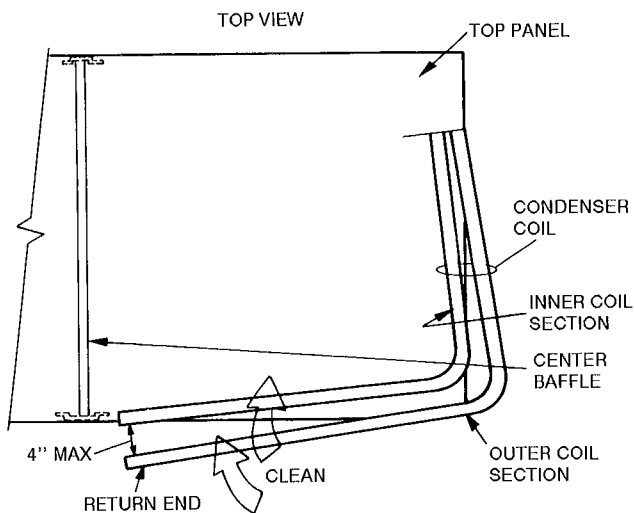

Fig. 32 — Separating Coil Sections
5. Remove fastener holding coil sections together at return end of condenser coil. Carefully separate the outer coil section 3 to 4 in. from the inner coil section. See Fig. 32.